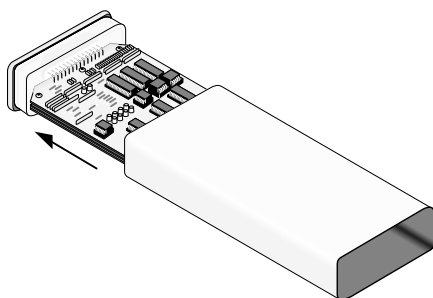

FIGURE 5. Removing the Circuit Card from the Can
9. Lay the control module on a flat surface (e.g., table) and push the RF shield with your thumb while grasping the can to remove the circuit card from the can (Figure 5).